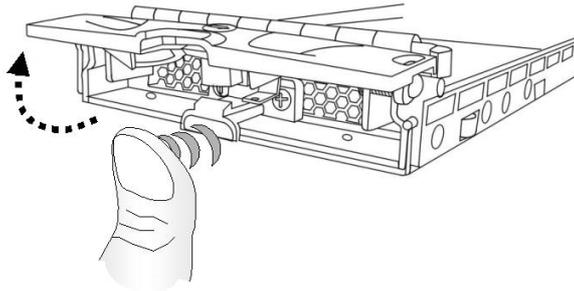

Figure 5-19: Opening the Front Flap
**Step 3. Open the front flap** by pushing the release button at the front of the drive tray. (See *Figure 5-19*) The front flap will automatically swings up into position.